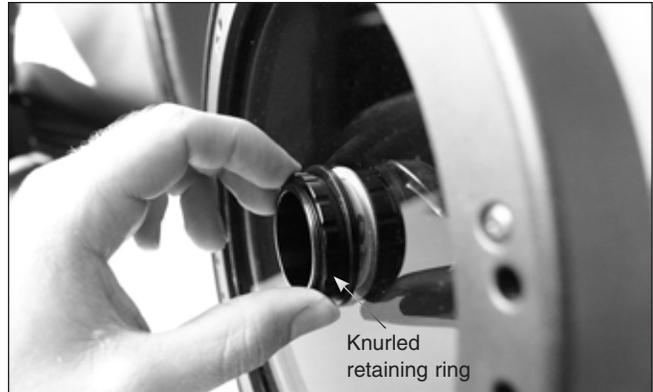

Figure 7. Loosen the knurled retaining ring on the secondary mirror holder to allow the secondary mirror holder to rotate.
2. Loosen the knurled retaining ring on the secondary mirror holder (Figure 7) about $\frac{1}{4}$ turn, or enough to free the tension in the ring.